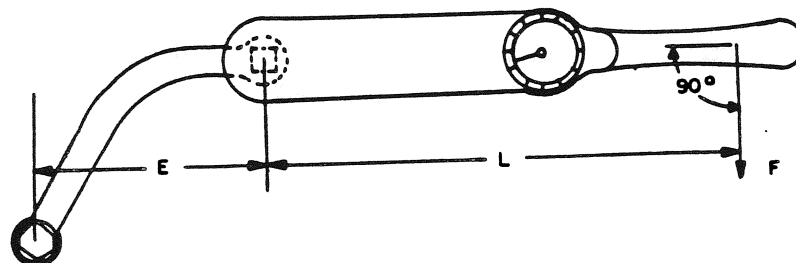

Figure 5.23. Adaptor Attached to Square Drive
13. Here again we have a wrench which adds length. Note that only the distance parallel to the torque wrench is used to get Factor "E". (See Figure 5.23.)